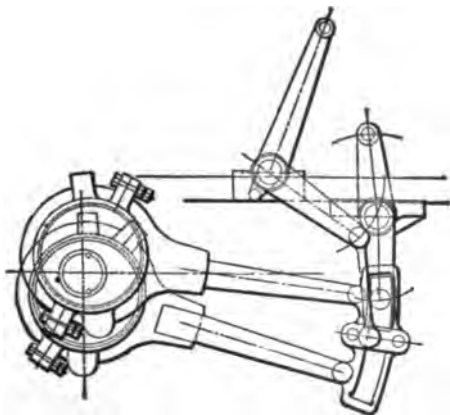

FIG. 19.
FIG. 19 is an outline of a link-motion such as is generally applied to the American locomotive. It can be adjusted to control the movement of the slide-valve in such a manner that equal portions of steam will be admitted alternately at each end of the cylinder.
Since this article treats only on the adjustment of the link-motion, the following items are supposed to be known and established: The lap of valve, which in this case will be three-fourths of an inch; the throw of eccentrics, 5 inches; the stroke of the piston, 24 inches; the position of the rocker, as per Fig. 19; the length of the rocker-arms, which are in this case of equal length; length of link-hanger and all dimensions of link, complete, as shown in Fig. 19; and also the length of the connecting rod.
In order to find what kind of elementary problems are applicable, let us suppose that we are looking at a locomotive with a link-motion, as shown in Fig. 19, applied and correctly adjusted. Now let us examine it, commencing with the valve. We find that the valve receives its motion from the upper rocker-arm, and this receives its motion from the lower rocker-arm. According to our conditions, previously stated, both of the rocker-arms are of the same length; and, therefore, the arc described by the upper rocker-arm will be the same length as the arc described by the lower one. We also notice that the link which moves the lower
parallel to  $AD$ ; this line will then pass through the axis of cylinder. With the center of axle  $C$  on the straight line  $AD$  as a center, and a radius equal to the length of the crank, describe a circle  $F, \frac{1}{2}F, B, \frac{1}{2}B$ : this circle will be the crank-pin circle. With the point  $C$  as a center, and a radius equal to the length of the connecting rod plus the length of the crank, describe an arc intersecting the straight line  $GH$  in the point  $F'$ : this point will be the position of the cross-head pin when the piston is at full stroke forward. Through the points  $F'$  and  $C$  draw a straight line, intersecting the crank-pin circle in the point  $F$ : this point will be the position of the center of the crank-pin when the piston is at full stroke forward. Again, with the point  $C$  as a center, and a radius equal to the length of the connecting rod minus the length of the crank, describe an arc intersecting the straight line  $GH$  in the point  $B'$ : this point will be the position of the center of the cross-head pin when the piston is at full stroke in the rear end of the cylinder. Through the points  $B$  and  $C$  draw a straight line, intersecting the crank-pin circle in the point  $B$ : this point will be the position of the center of crank-pin when the piston is at full stroke in the rear end of the cylinder. Find a point  $C'$  exactly central between the points  $B'$  and  $F'$  on the line  $GH$ : in other words, bisect the distance  $B'F'$  by the point  $C'$ . With the point  $C'$  as a center, and a radius equal to the length of the connecting rod, describe an arc intersecting the crank-pin circle in the points  $\frac{1}{2}B$  and  $\frac{1}{2}F$ : these two points will be the center of crank-pin when the piston stands at half stroke. In the link-motion, as shown in Fig. 19, the axis of the cylinder is
**PROBLEM 2, FIG. 22.** — *To find the center line of motion and the amount of offset in the lower rocker-arm.* — Let  $C$  be the centre of axle: through  $C$  draw the straight lines  $AD$  and  $KL$  perpendicular to  $AD$ . The center of rocker we find in Fig. 19 to be  $37\frac{1}{2}$  inches in front of the center of axle, and  $7\frac{1}{2}$  inches above. We therefore continue our construction in Fig. 22 by draw-